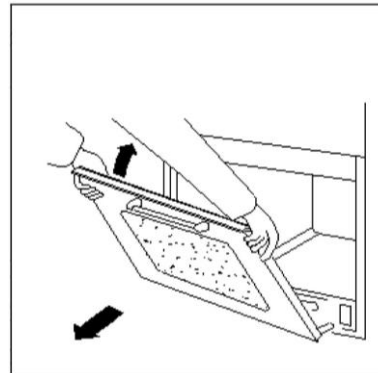

Figure 10
3. Grip the door on the two external sides, shut it slowly but not completely (See Figure 10)
4. Pull the door towards you, pulling it out of its seat (See Figure 10)